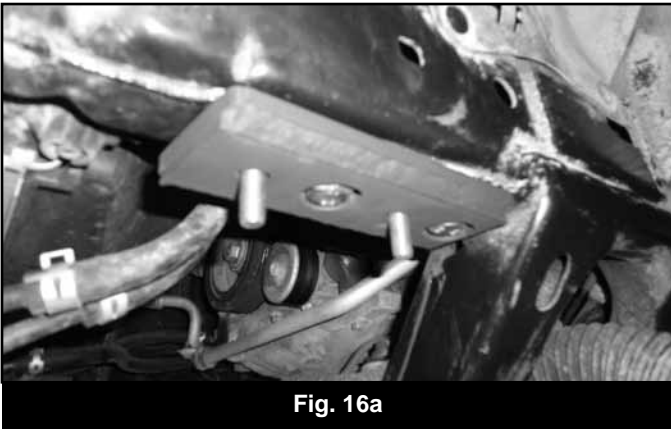

Fig. 16a
28. Install 3/8" bolts into the sway bar relocation brackets, without washers on the head of the bolt. Install the sway bar offset brackets with new 10mm bolts, no washers required the brackets will offset the sway bar towards the front of the vehicle. If installing optional Fox remote reservoir coilovers, install the remote reservoir bracket between the bracket and the frame. Hardware is located in bolt pack # 665. (Fig 16a, 16b)